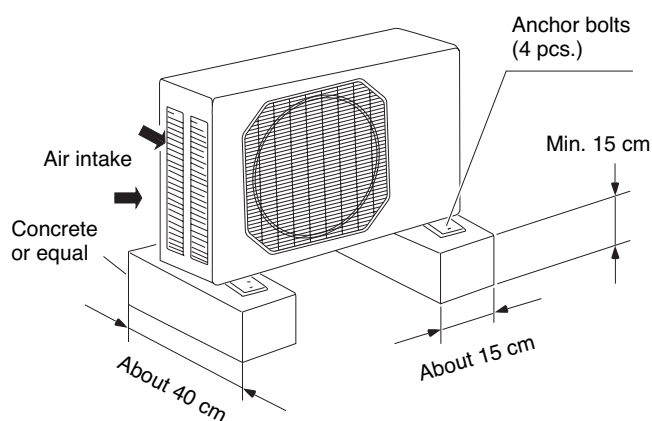

Fig. 5c
- provide a solid base (level concrete pad, concrete block, 15 × 40 cm beams or equal), a minimum of 15 cm above ground level to reduce humidity and protect the unit against possible water damage and decreased service life. (Fig. 5c)